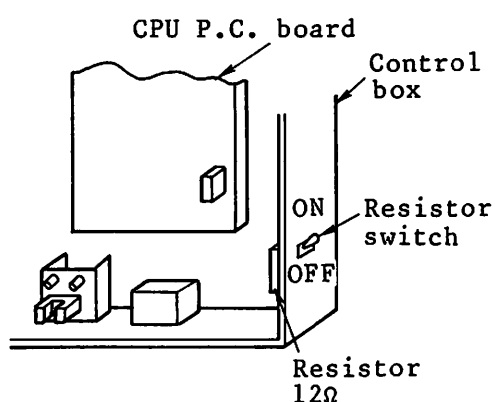

Fig. 12.1
- (1) For fuse, use glass tube fuse of 10A rating ($\phi 6.4 \times 30$) For location of these fuses, refer to Fig. 12.1.
- (2) Magnetic breaker
The clutch current control resistor (12Ω 40W) can be short-circuited or inserted by setting the switch shown in Fig. 12.1.